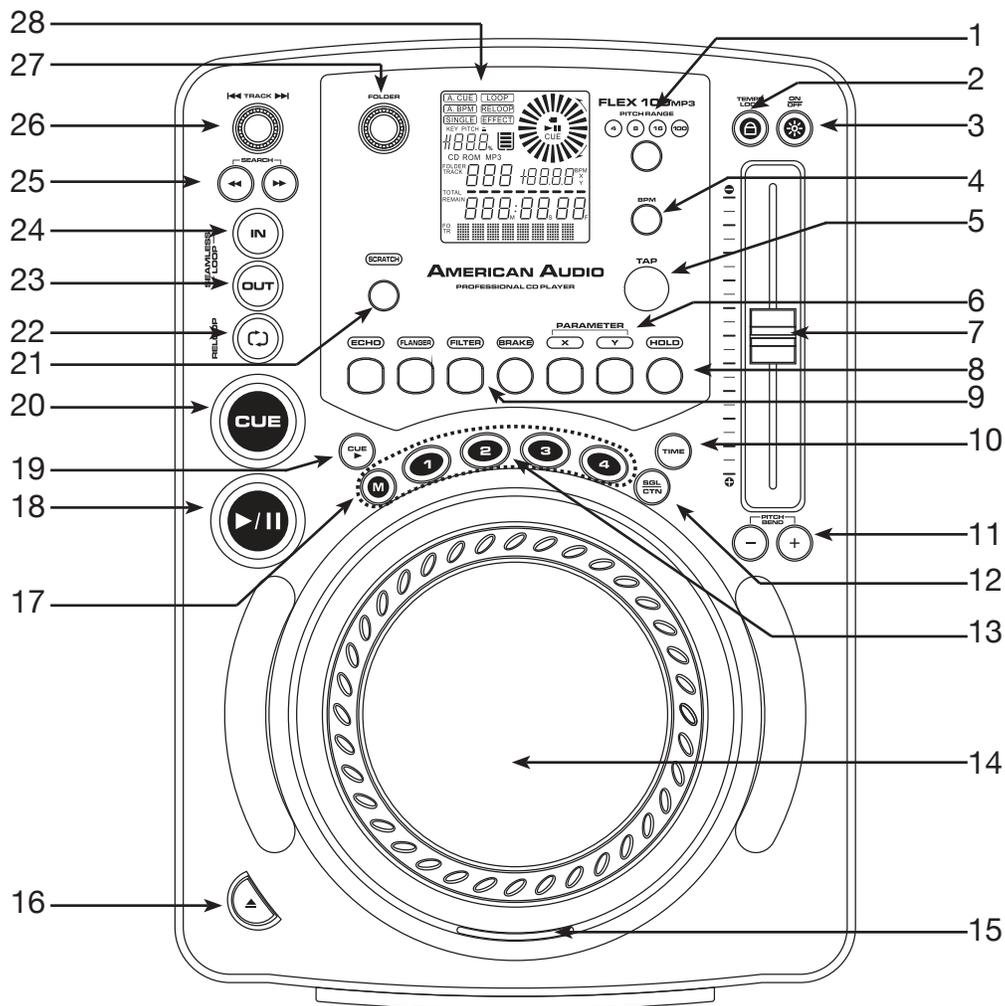

Figure 3
A. TOP UNIT CONTROLS (FIGURE 3)
3. PITCH ON/OFF BUTTON - This button is used activate the *PITCH SLIDER* (7). When the button LED is lit the *PITCH SLIDER* (7) is active. When the button LED is not lit, the *PITCH SLIDER* (7) is not active. The pitch percentage can be changed between 4%, 8%, 16% and 100%. 4% will allow the least amount of pitch manipulation and 100% will allow the most amount of pitch manipulation.